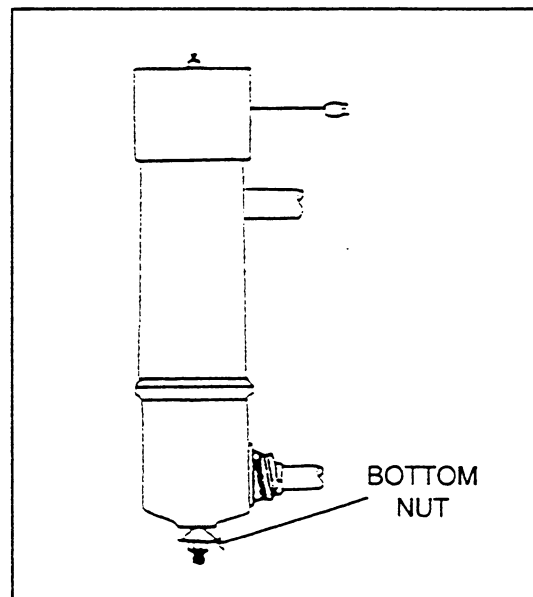

Figure 1
- 2) After the ten minute warm-up period, shut the generator down. Torque the bottom nut to 6 (six) foot-pounds. (See Figure 1 below).
Refer to Fig. 1 for 12V chargers and Fig. 2 for 24V chargers.